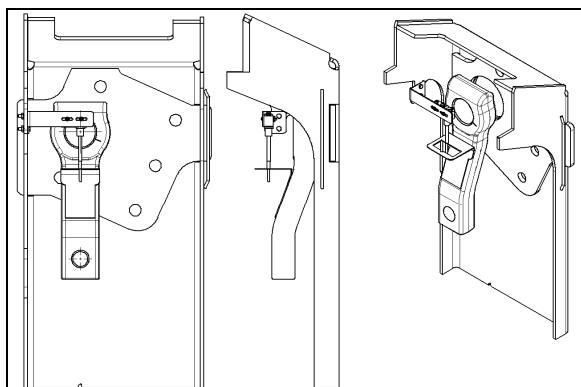

FIGURE 16: TAG AXLE UNLOADING SWITCH
2. Line up switch lever with reference to the bracket center (Refer to figure 16).